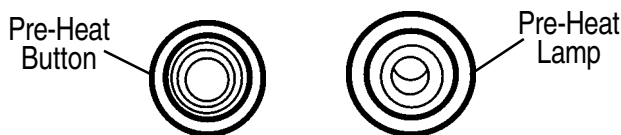

Figure 61. Pre-Heat Button/ Lamp
21. Press and hold the engine preheat button (Figure 61) until the preheat lamp is lit (**ON**).